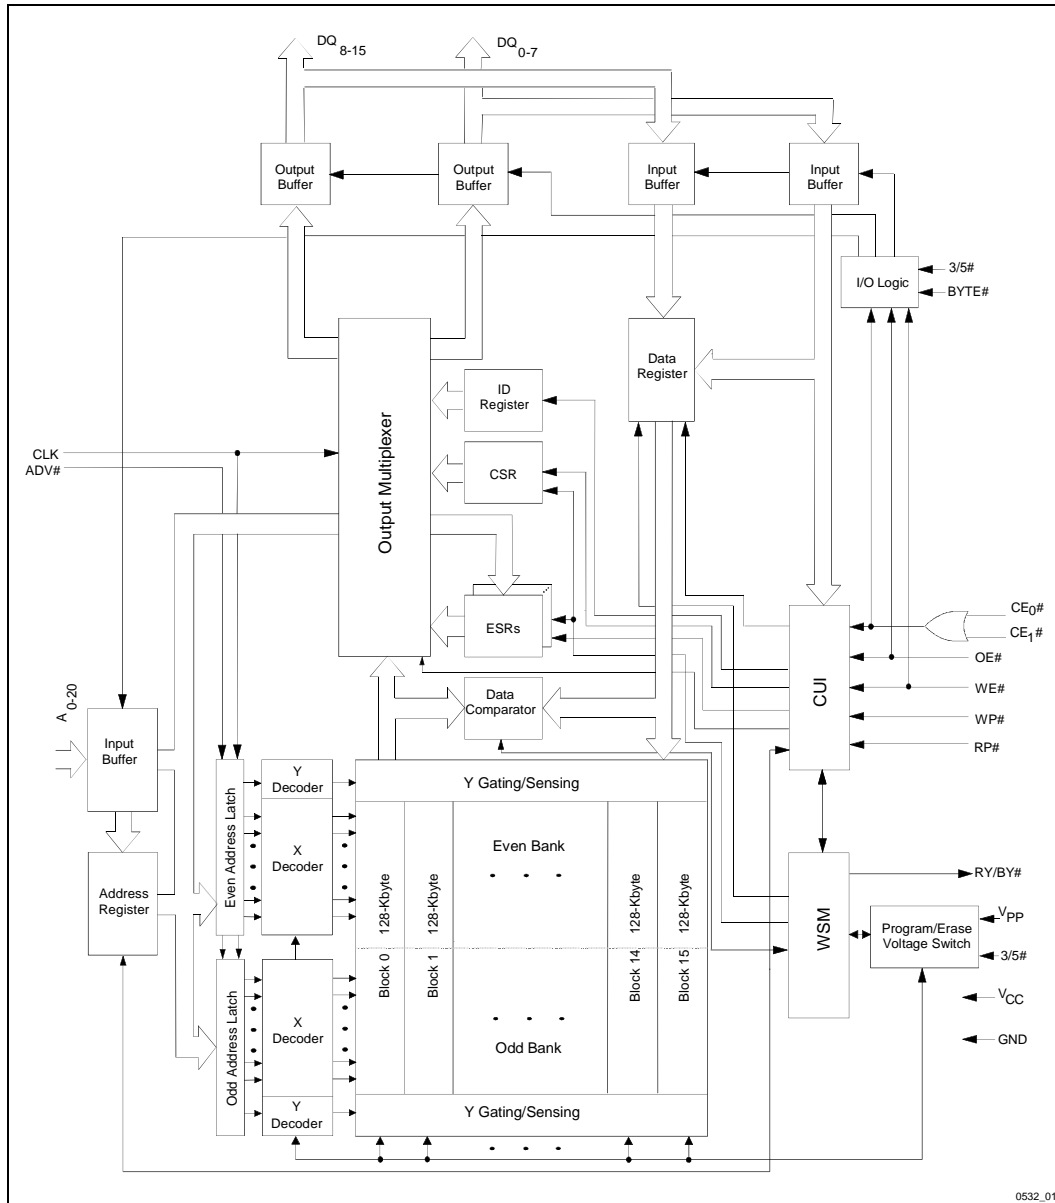

Figure 1. 28F016XS Block Diagram
-003	<p>Added 3/5# pin to Pinout Configuration (Figure 2), Product Overview (Section 1.1) and Lead Descriptions (Section 2.1) Modified Block Diagram (Figure 1): Removed Address Counter; Added 3/5# pin Added 3/5# pin to Test Conditions of I_{CCS} Specifications Added 3/5# pin (Y) to Timing Nomenclature (Section 5.6) Removed Note 7 of Section 5.7 Modified Device Configuration Code: Incorporated RY/BY# Configuration (Level Mode support ONLY) Modified Power-Up and Reset Timings (Section 5.10) to include 3/5# pin: Removed t_{5VPH} and t_{3VPH} specifications; Added t_{PLYL}, t_{PLYH}, t_{YLPH}, and t_{YHPH} specifications Added SSOP pinout (Figure 2) and Mechanical Specifications Corrected TSOP Mechanical Specification A1 from 0.50 mm to 0.050 mm (Section 6.0) Minor cosmetic changes throughout document.</p>
The BYTE# pin allows either x8 or x16 read/programs to the 28F016XS. BYTE# at logic low selects 8-bit mode with address A₀ selecting between low byte and high byte. On the other hand, BYTE# at logic high enables 16-bit operation with address A₁ becoming the lowest order address and address A₀ is not used (don't care). A device block diagram is shown in Figure 1.